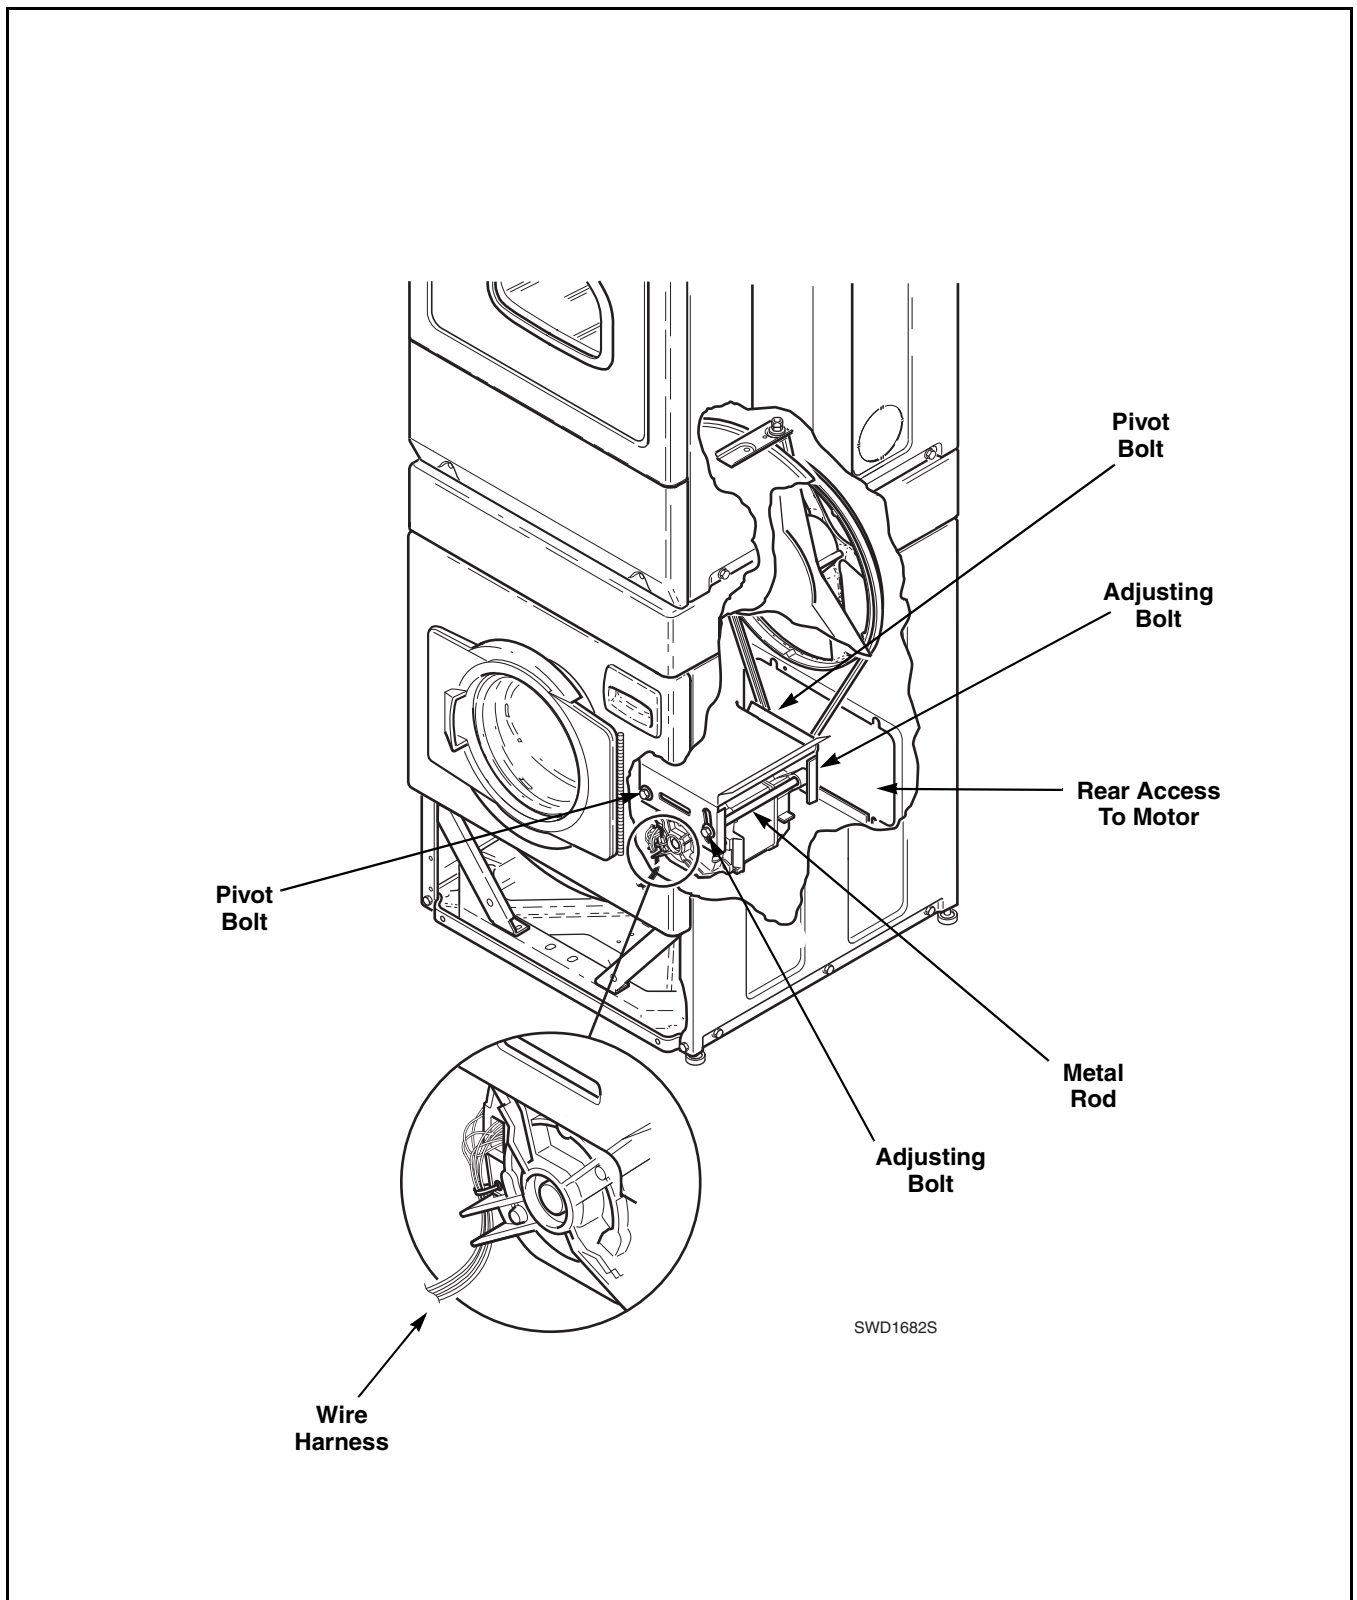

Figure 19
- e. Cut the wire tie holding small harness connector to motor, then disconnect both motor harness connectors from motor. Refer to *Figure 19*.
- f. Using a magic marker, outline the washer on the front and rear adjusting bolt holding motor to bracket so the belt can be tightened to the same location. Refer to *Figure 19*.
- g. While supporting the motor, grasp the metal rod with a locking pliers and remove four bolts and washers holding motor to motor bracket, refer to *Figure 19*, and remove motor out through front of washer.
- b. Reconnect harness connector to new motor. Refer to *Figure 19*.
- c. Install new wire tie holding small harness connector to motor frame. This is necessary to prevent future service calls. Refer to *Figure 19*.
- d. Lift motor into position within the motor bracket and install the front pivot bolt and washer. Refer to *Figure 19*. Then install the rear pivot bolt and washer. Leave bolt snug, do not tighten.
- e. Pivot motor up into motor bracket and install the front adjusting bolt and washer. Refer to *Figure 19*. Then install rear adjusting bolt and washer. Leave bolts snug.